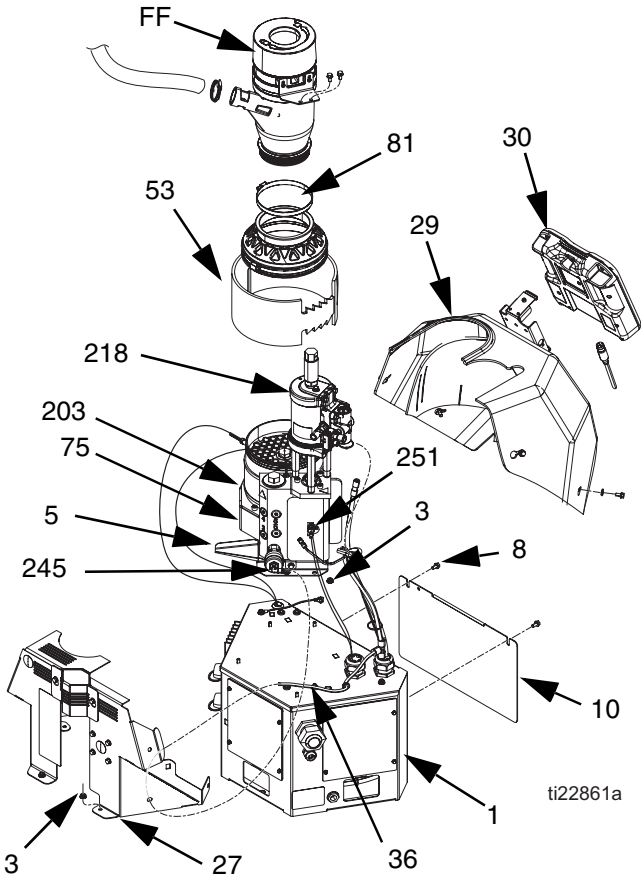
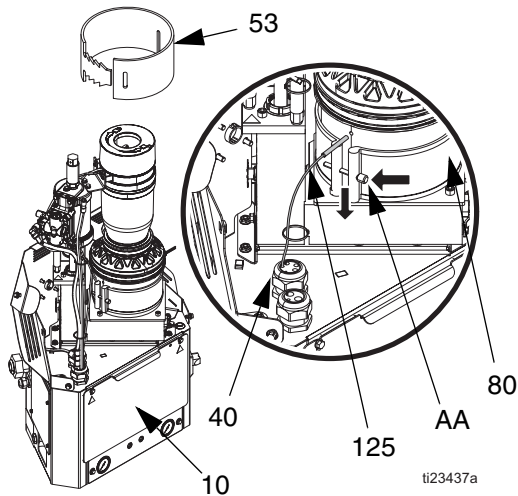

FIG. 39
FIG. 42
5. Remove cable from ADM (30) then slide forward the shroud (29) and remove it from the system.
6. Remove screws (8) then remove electrical enclosure front access door (10).
8. Remove the air tube (36) from the relief valve (245). Pull the air tube from the metal shroud (27).
9. Remove nuts (3) on the back metal shroud (27) then remove shroud.
10. Remove fabric melter insulator (53).
11. Loosen screw (AA) then remove sensor (125). See FIG. 42, page 63.
12. Loosen hose clamp (81) then remove funnel (FF).
13. Remove wire connectors from the over-temperature switch (251).
14. Remove insulators (53, 75) from the melter assembly (5).
15. Disconnect the fill sensor cable from the fill sensor (20). See **Replace Fill Sensor**, page 69.
17. Remove the air tube from the air motor (218).
Disassembly (see FIG. 42):
4. Remove air tube (36) from relief valve. Pull the air tube through the metal shroud (27).
5. Remove nuts (3) then remove metal shroud (27). See FIG. 39, page 60.
6. Remove fabric melter insulator (53).
7. Loosen screw (AA) then remove sensor (125).
8. Remove electrical enclosure access door (10).
9. Disconnect the temperature sensor cable from MZLP connector labeled J5. See FIG. 42.
Reassembly (see FIG. 42):